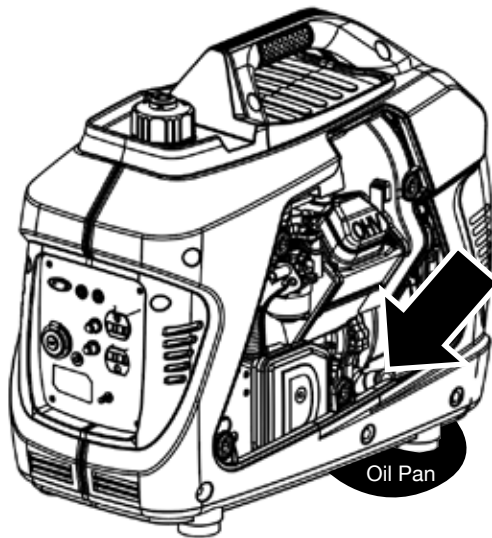

Figure 13: Place oil pan under oil drain hole
4. Place oil pan (or suitable container) under the oil drain hole (see Figure 13).